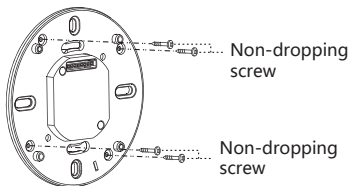

FIG.16
- Insert 4pcs non-dropping screws to the corresponding screw holes on detector's fixing plate, and those 4pcs screws will not drop off to provide convenience to the subsequent installations (See FIG.16).